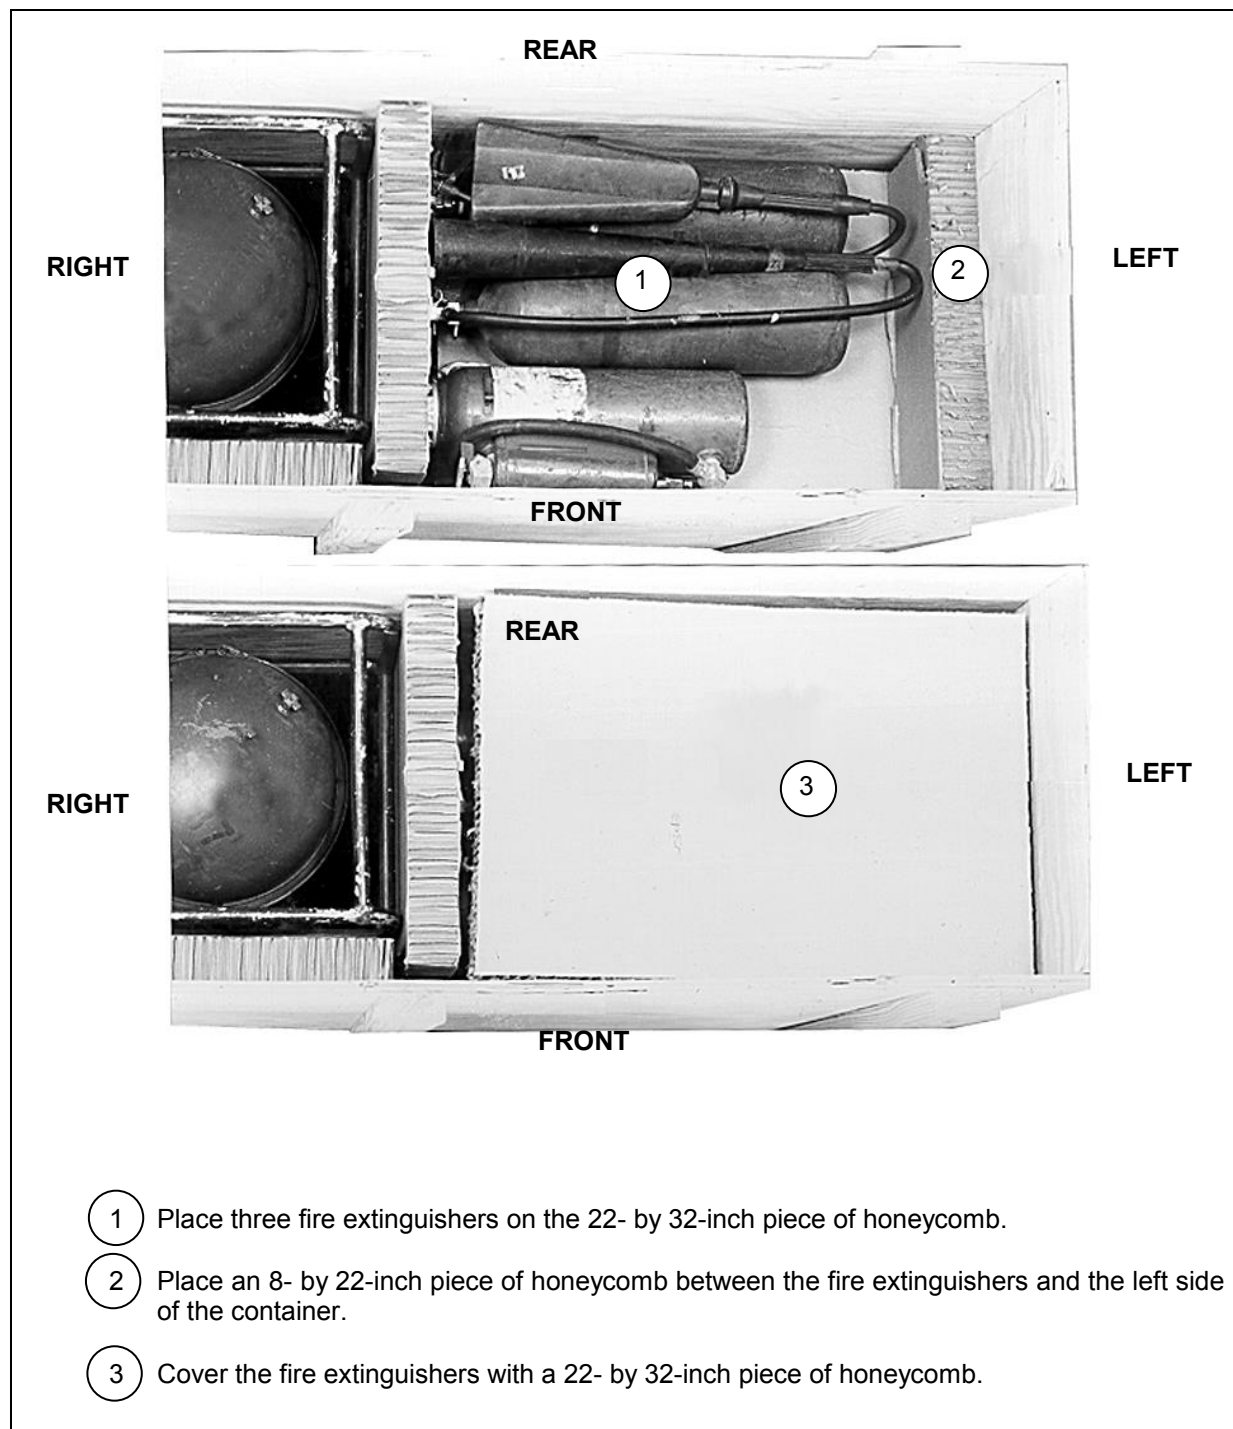

Figure 11-11. Fire Extinguishers Stowed
- Stowing Fire Extinguisher. Stow the fire extinguishers in the container as shown in Figure 11-11.